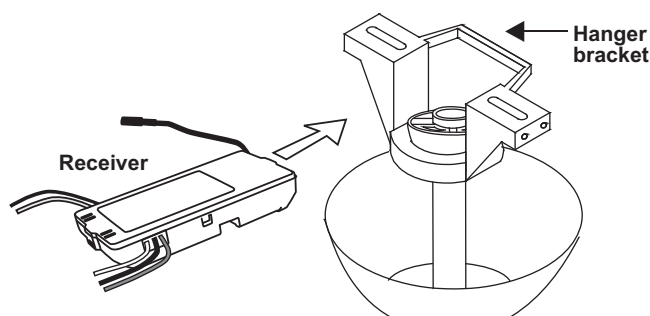

Figure 10
1. Insert Receiver into Hanger Bracket with the flat side of the Receiver facing the ceiling. (Fig. 10)